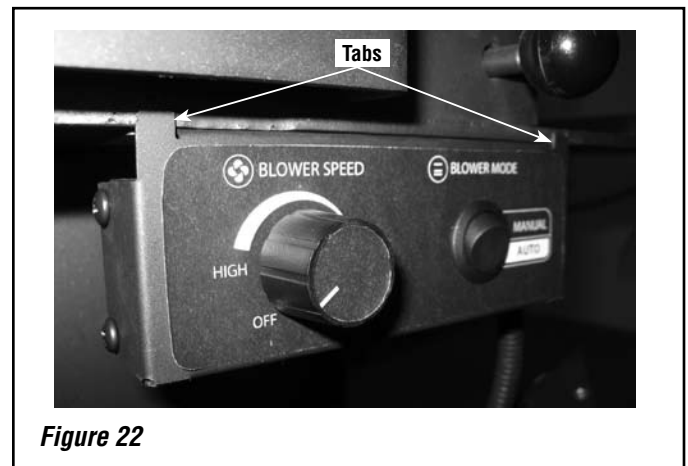

Figure 22
Step 8. Install the control box by sliding the front control box slot over the 3/8" bolt head from Step 6. Slide control box towards the center of the stove until it stops on the tabs. See **Figure 22**.